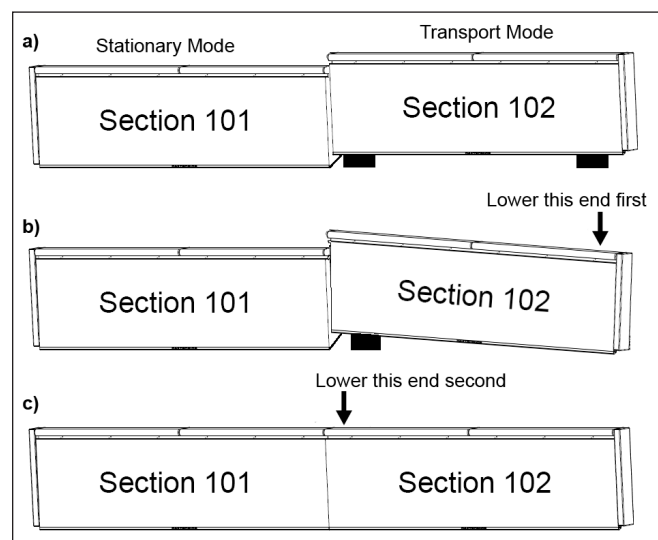

Figure 34: Multiple Table Positioning
3. Position the tables together as described below and shown in **Figure 34**: